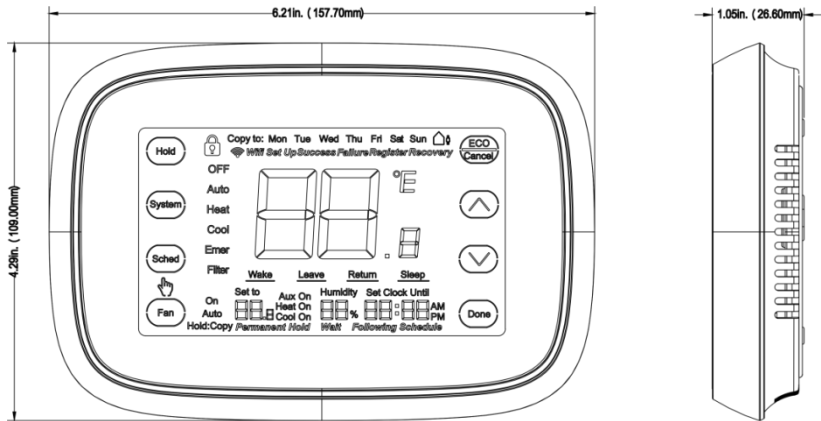

Fig. 1. Lakepro-1 front and side dimensions in inches. (mm).
1. Lakepro-1 front and side dimensions: see Fig. 1.